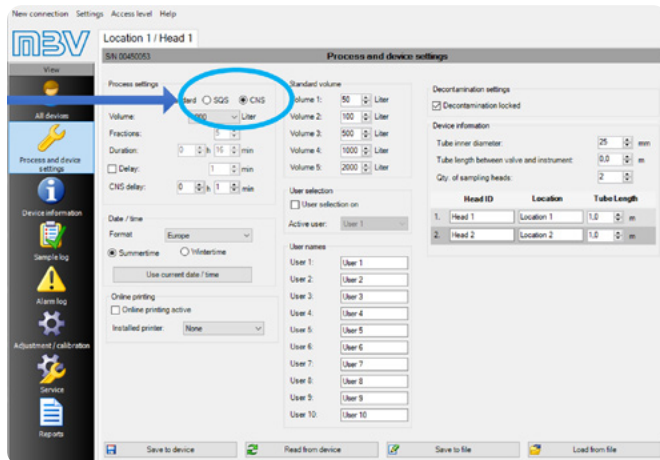

Figure 7: C&C software - CNS mode
- Enter your process and device settings: In the example in Figure 7, two heads are set in CNS mode (consecutive sampling) with 1000 liters of air to be sampled by each head.